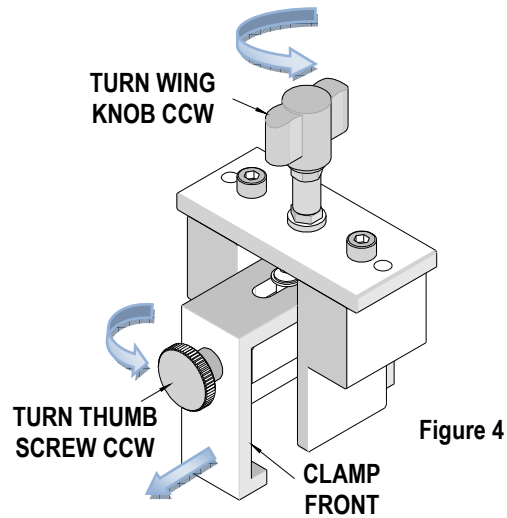

Figure 4
2. Turn the thumb screw counter clockwise so the clamp front can slide forward shown in Figure 4.